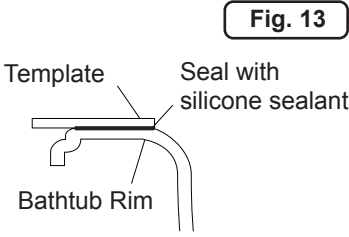

Fig. 13
6. Apply a continuous bed of silicone sealant around the entire seam between the counter and the bathtub rim. Allow sealant to cure according to manufacturer's instructions (Figure 13).